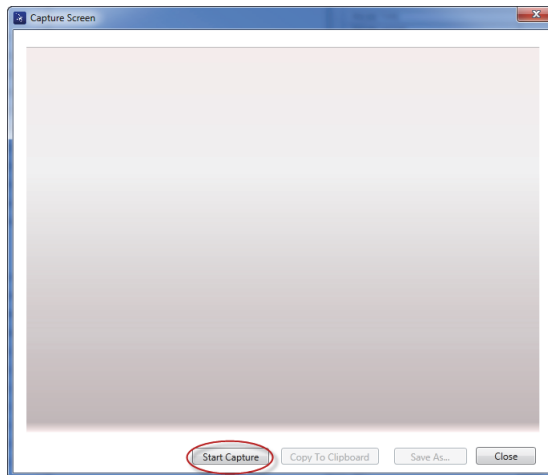

Figure 7-2 The Capture Screen dialog box
The **Capture Screen** dialog box opens (see Figure 7-2 on page 182).
4. In the **Capture Screen** dialog box, click **Start Capture** (see Figure 7-2 on page 182).